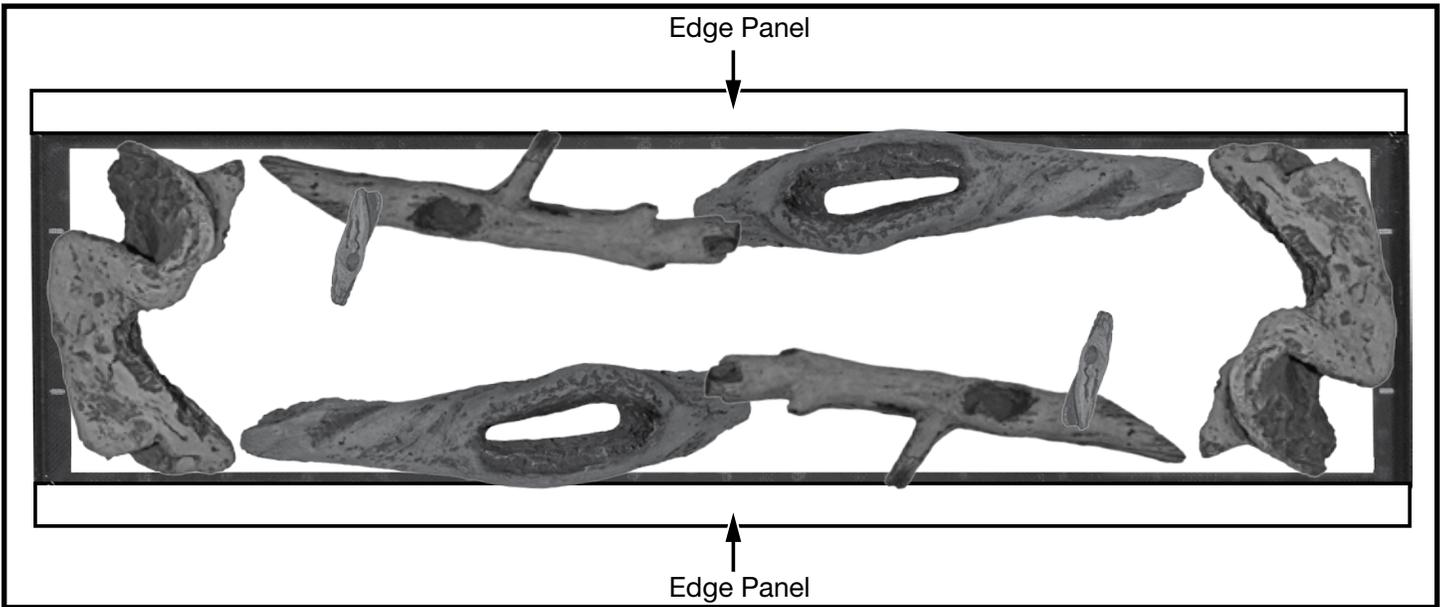

Figure 25: Completed log placement.
5. Repeat the previous steps to complete the log set installation (Figure 25).